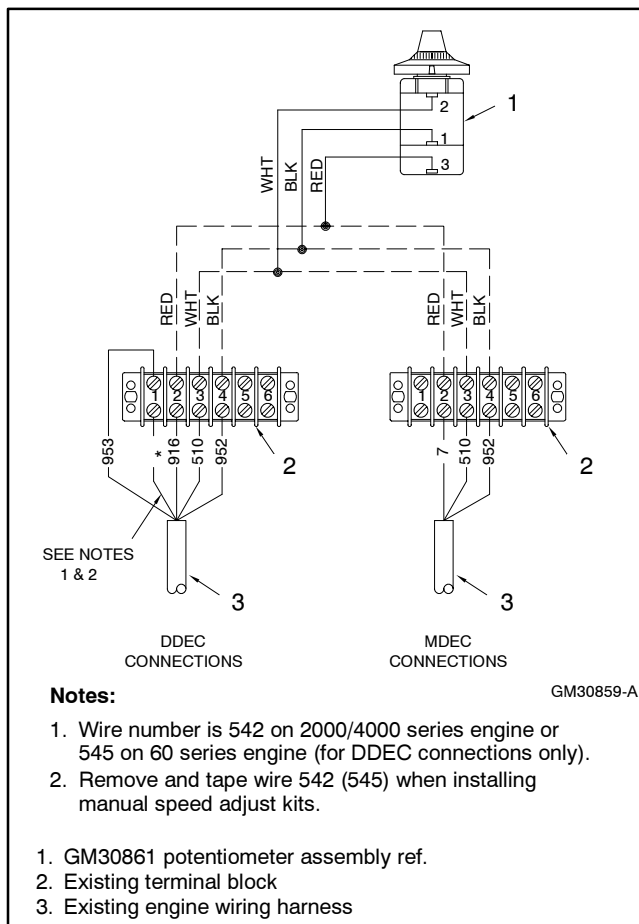

Figure 4 Remote Speed Adjusting Control Wiring Diagram
- 3.2 Connect the red, black, and white leads to the governor controller terminal strip as shown in Figure 4.
- 3.4 **DDEC-equipped DDC/MTU engines only.** See Figure 4. Remove and tape the following wire: